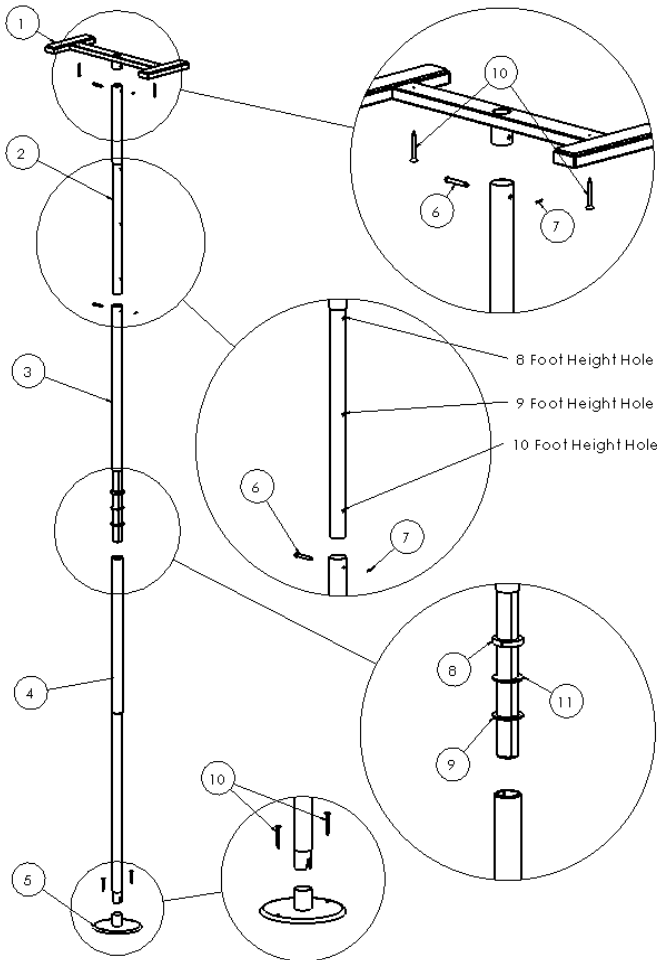
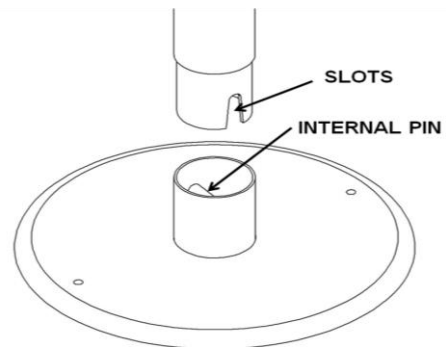

FIGURE 1
FIGURE 3
1. Take all parts out of the box and lay them on a flat surface as shown in Figure 1.
4. The Extension Tube (ITEM-2) has 3 sets of holes marked "8 Foot Height Hole", "9 Foot Height Hole", and "10 Foot Height Hole" (as shown in Figure-1) in Figure 1. Use the appropriate height hole that corresponds to the height of the ceiling this product will be installed.
7. Attach Base Plate (ITEM-5) to Handle Tube (ITEM-4), as shown in Figure 1, by aligning the slots in Handle Tube (ITEM-4) with the internal pin in Base Plate (ITEM-5) so the slots straddle the internal pin to prevent rotation as shown in Figure 3.
NOTE: Make sure the Plastic Washer (ITEM-11) is placed between the Adjustment Nut (ITEM-8) and the Washer (ITEM-9) as shown in Figure 1 before inserting ITEM-3 into ITEM-4.